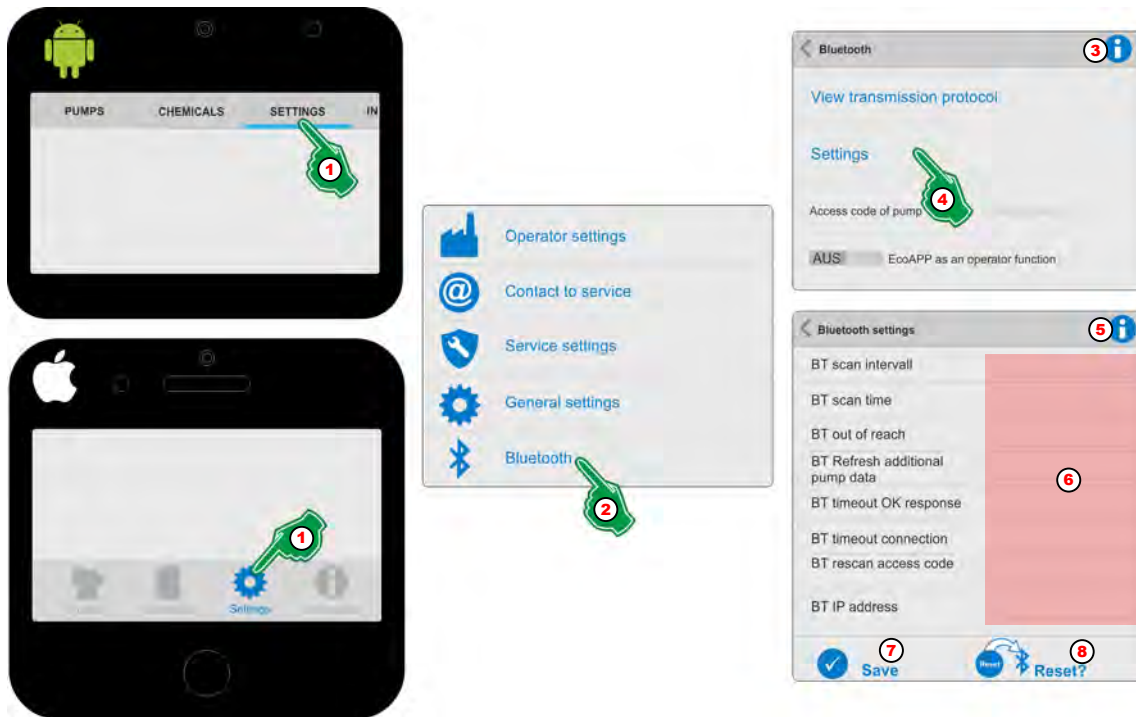

Fig. 57: Bluetooth settings
1. Select [Settings] (Fig. 57, Pos. 1).
2. Select [Bluetooth] (Fig. 57, Pos. 2).
3. With the selection of the [Info] (i) Symbol (Fig. 57, Pos. 3), the display will be:
*If an [access code] (administrator (A) and/or operator (O)) have been input at the pump, communication is blocked via Bluetooth!
4. Select [Settings] (Fig. 57, Pos. 4).
5. With the selection of the [Info] (i) Symbol (Fig. 57, Pos. 5), the display will be:
7. Press the [Save] button (Fig. 57, Pos. 7) to access the settings.
8. The [Reset?] button (Fig. 57, Pos. 8) restores the original settings.